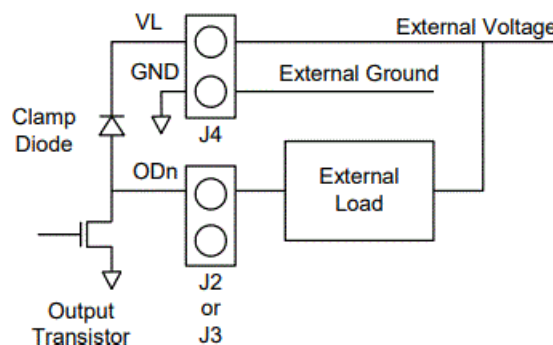

Figure 2. Output circuit with load connection.
As illustrated in Figure 2, a load is connected so that current from an external voltage source conducts through the load to the ground when the output transistor is turned on. In order to complete the circuit, the GND pin on J4 must be connected to the ground for the external voltage supply. Additionally, the external voltage source must be connected to the VL pin on J4 to complete the circuit for the output clamp diode.
- As illustrated in Fig. 2, a load is connected so that current from an external voltage source conducts through the load to ground when the output transistor is turned on. In order to complete the circuit, the GND pin on J4 must be connected to the ground for the external voltage supply. Additionally, the external voltage source must be connected to the VL pin on J4 to complete the circuit for the output clamp diode.